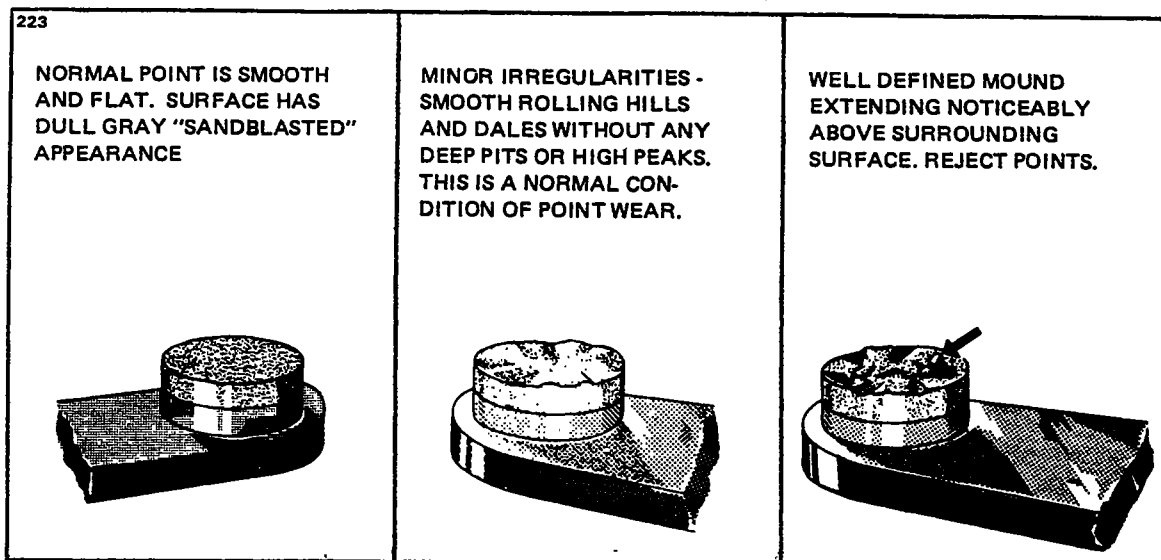

Figure 8A-10. Contact Points
e. Remove the breaker cover and harness securing screws and nuts, and separate cover from magneto housing. Check contact assemblies to see that cam follower is securely riveted to its spring. Examine the contact points for excessive wear or burning. Figure 8A-10 shown how the average contact point will look when surfaces are separated for inspection. Desired contact surfaces have a dull gray, sand-blasted (almost rough) or frosted appearance, over the area where electrical contact is made. This means that points are worn in and mated to each other, thereby providing the best possible electrical contact and highest efficiency of performance.
to Figure 8A-10 center). Neither are small pits or mounds, if not too pronounced. If there is a possibility of pit becoming deep enough to penetrate pad, Figure 8A-10, right, reject contact assembly.